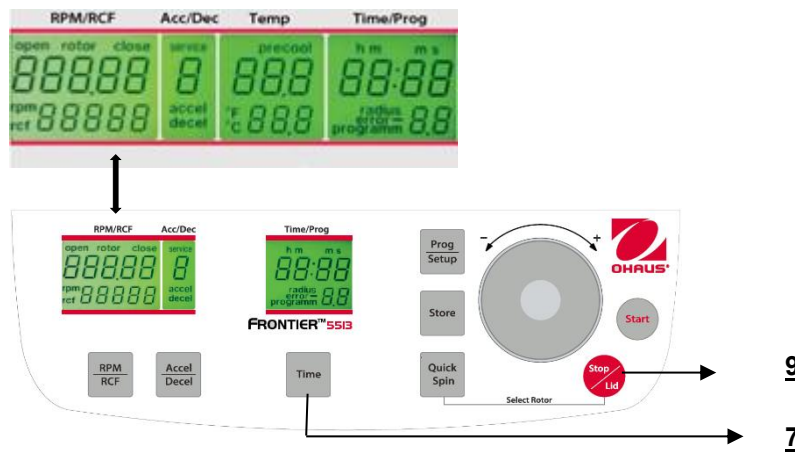

Figure. 28
While the centrifuge is turned off, press simultaneously the keys **"Time"**(7) and **"Stop/Lid"** (9) and turn on the main switch of the centrifuge. Now release both keys and as a result a display test is executed for approx. 5 seconds. All indicators will appear at the same time (See figure 28).